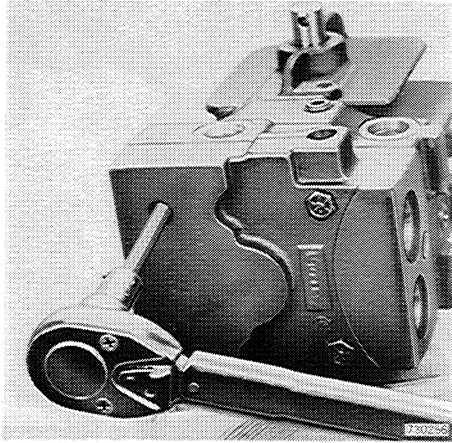

Figure 3
1. Remove the transfer block/valve plate assembly by removing two Allen head screws, and then the two hex head screws, Figure 3.